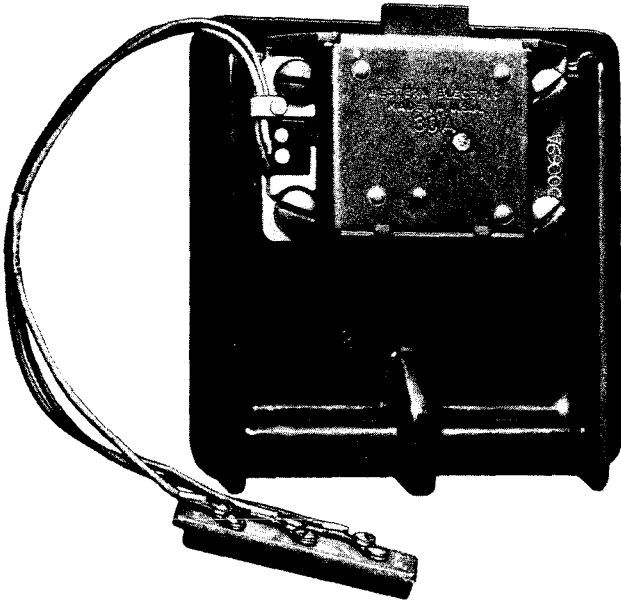

Fig. 5—257A Alarm Switch Assembly Mounted on 30-Type Lock
2.11 The 257A alarm switch assembly is arranged for use on all coin collectors/telephones equipped with a 30-type cash compartment lock and is mounted by using two of the existing lock mounting screws. Fig. 5 shows the switch mounted on a lock.
3.08 The 30-type lock is arranged for but not equipped with a 257A alarm switch assembly (Fig. 5).